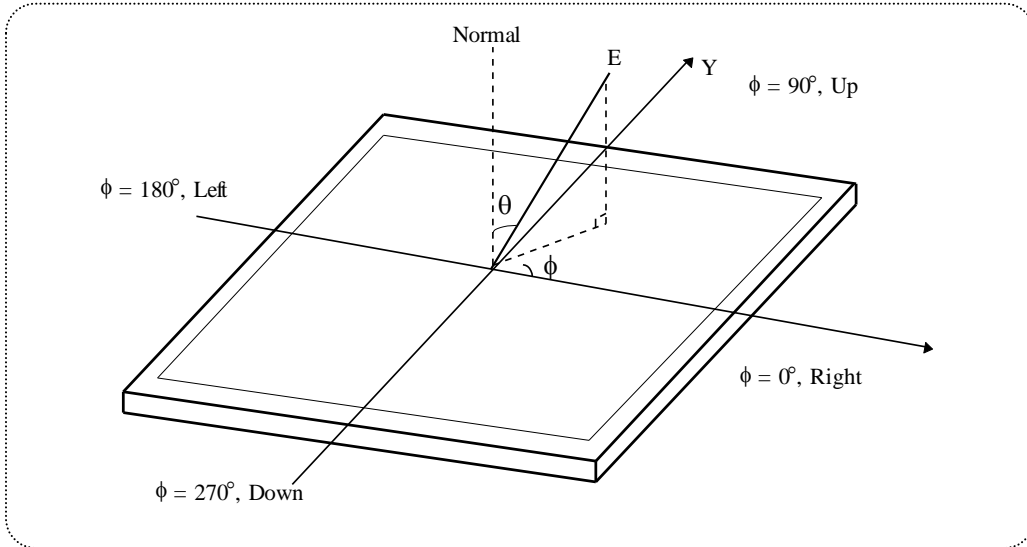

FIG.10 Viewing angle
6. **Viewing angle** is the angle at which the contrast ratio is greater than 10. The angles are determined for the horizontal or x axis and the vertical or y axis with respect to the z axis which is normal to the LCD surface. For more information see FIG.10 **(By PR880)**